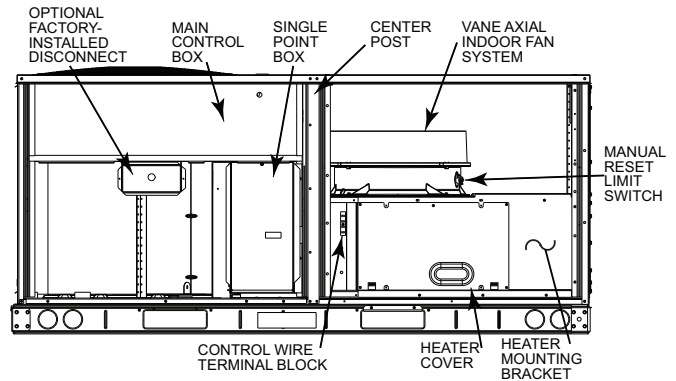
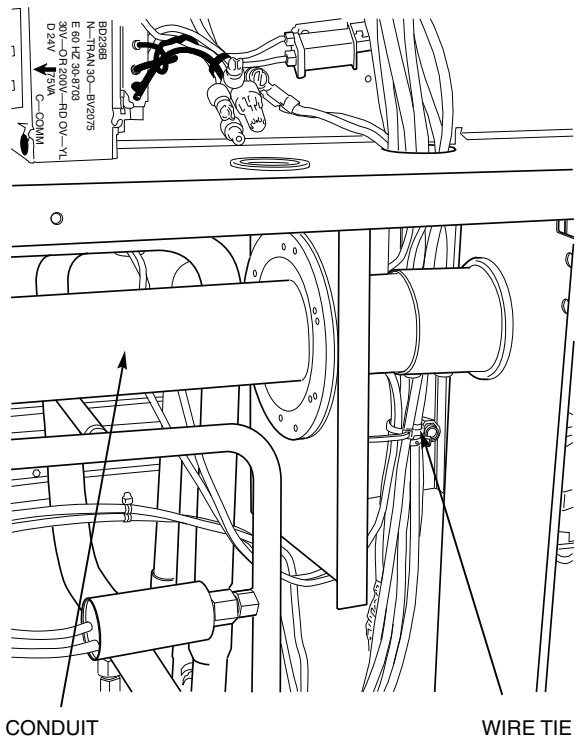

Fig. 5 — Typical Component Location
Fig. 9 — Typical Conduit Installation
4. Remove control box cover and center post. Save screws. (See Fig. 5.)
9. Secure the rainshield (conduit drip boot bracket) assembly to the back of the single point box with 2 of the screws provided. (See Fig. 5.) The channel portion of the bracket assembly extends to the top panel behind the control box. Secure all wires to bracket with field-supplied wire tie as shown. (See Fig. 9.)
6. Factory control wiring for heaters runs from unit control box to terminal block TB-4, mounted in the heater compartment to the left of the heater module. (See Fig. 5 and 13.) Connect the heater control wiring at TB-4.
Remove knockouts for appropriate size conduit from unit block-off panel and single point box. Install conduit (rigid or electromagnetic tubing) through conduit drip boot as shown. (See Fig. 9.) Drip boot will accept conduit sizes 3/4-in. to 1 1/2-in. The drip boot eliminates the need for watertight conduit fittings at the single point box.